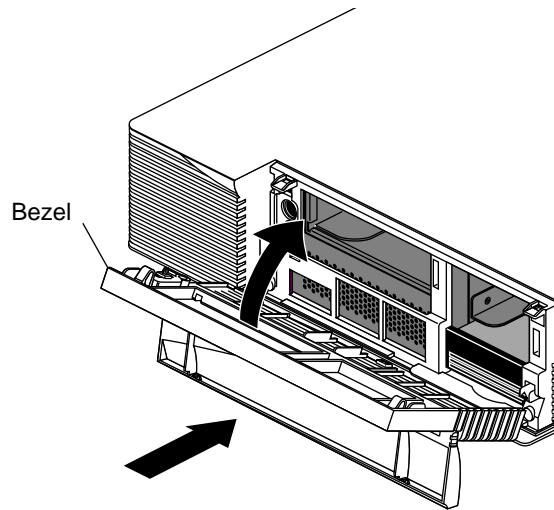

Figure 2-6 Replacing the Bezel
- Place the tabs on the bottom of the cover in the grooves in the front of the chassis, as shown in Figure 2-6.